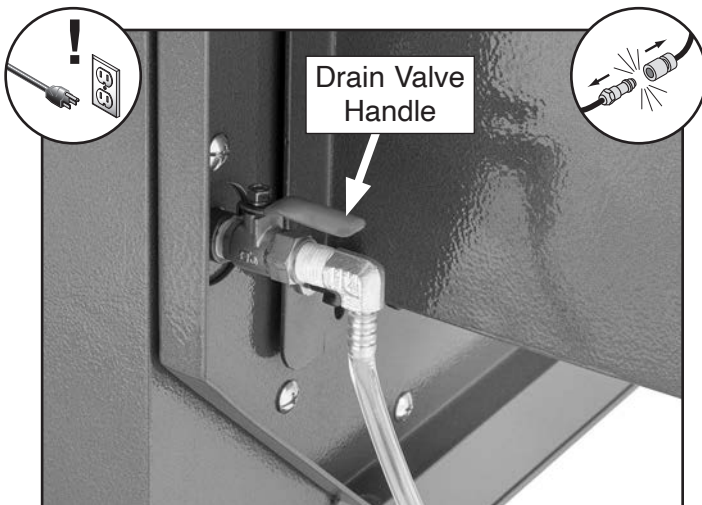

Figure 45. Drain valve handle open.
3. Move drain valve handle to open drain valve and drain condensation (see **Figure 45**).